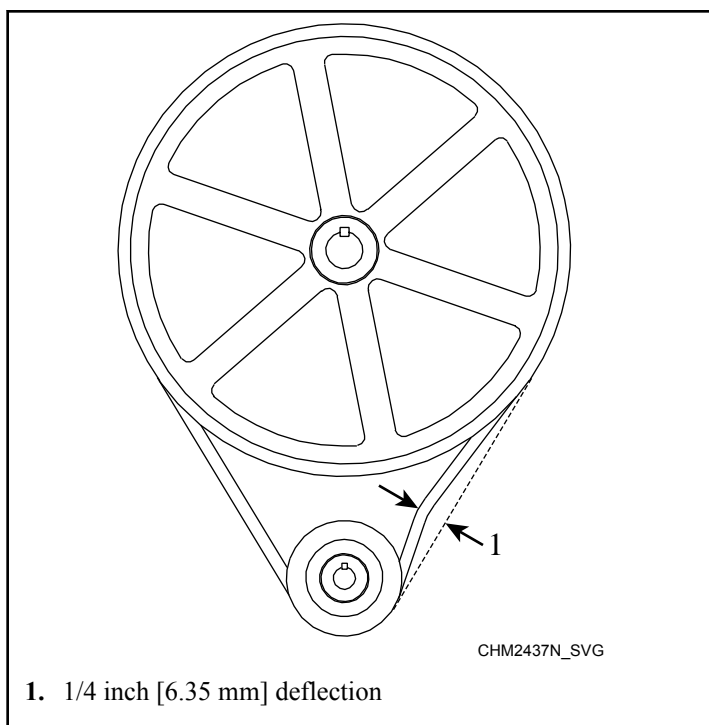

Figure 42
- **Burroughs Gauge (20 pound 1 HP models only).** Use a Burroughs belt gauge to obtain proper tension. Proper belt tension is obtained when belt can be deflected from normal position (refer to *Figure 42*) when moderate pressure of is applied to the point midway between pulleys.